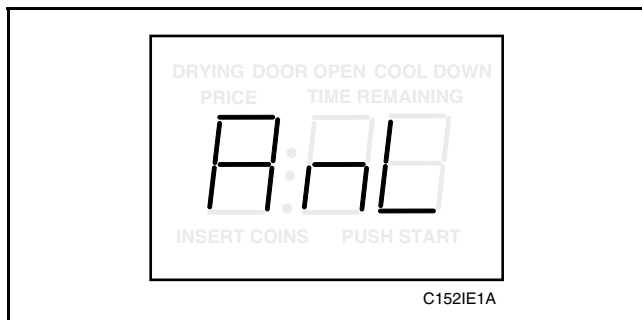

Figure 26
3. Press the LOW TEMP (+) pad or the NO HEAT (-) pad to scroll through the programmable options until “AnL” appears in the VFD, *Figure 26*.